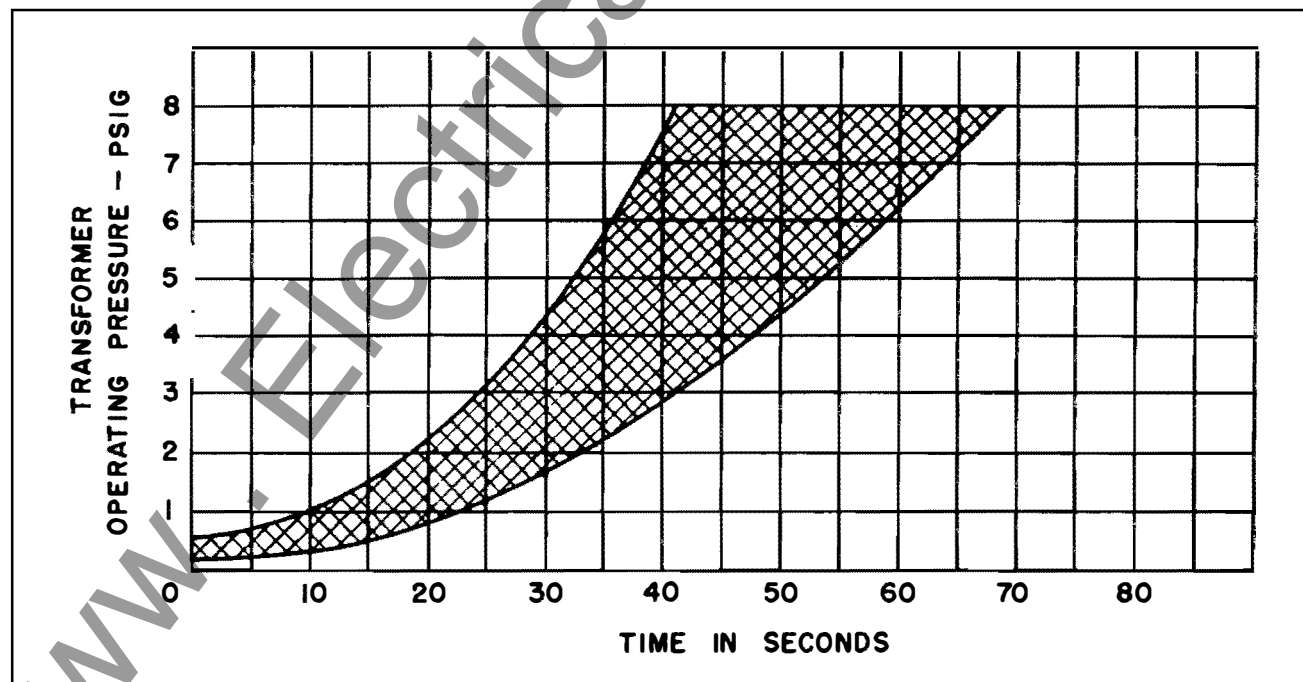

Fig. 4 Time and Pressure Curves
It is desirable to check the operation of the relay when it is installed and every six months or a year afterwards. There is a definite relationship between the transformer gas pressure and the time required to equalize the pressures between the transformer and the relay. This relationship is shown graphically in Figure 4 and is the basis for checking the operation of the relay. The following test may be made on the relay while the transformer is in service, providing the transformer is operating at a positive tank pressure in excess of 3/4 pound per square inch.
6. Using the time recorded in (5) and the pressure recorded in (2) as coordinates on Figure 4, Time and Pressure Curve,